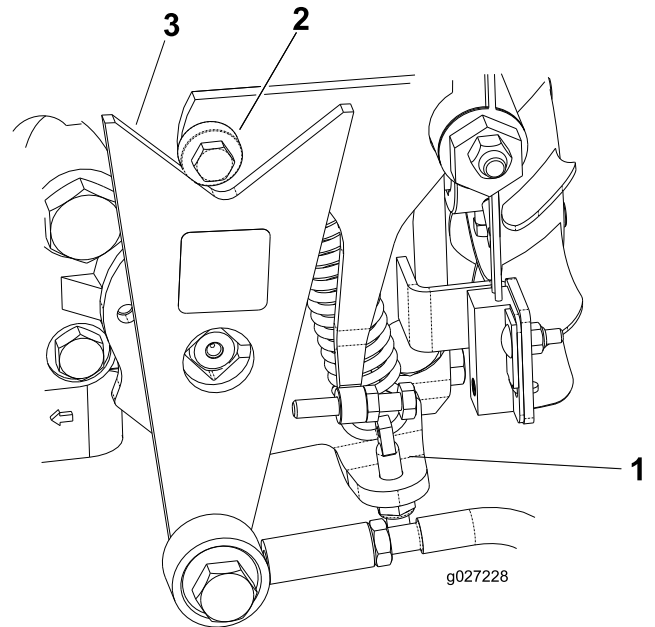

Figure 48
- If the wheels rotate in the proper direction, shut off the engine and adjust the spring-adjusting pin locknut (Figure 48). Adjust the traction neutral position; refer to Adjusting the Traction Drive for Neutral (page 28).